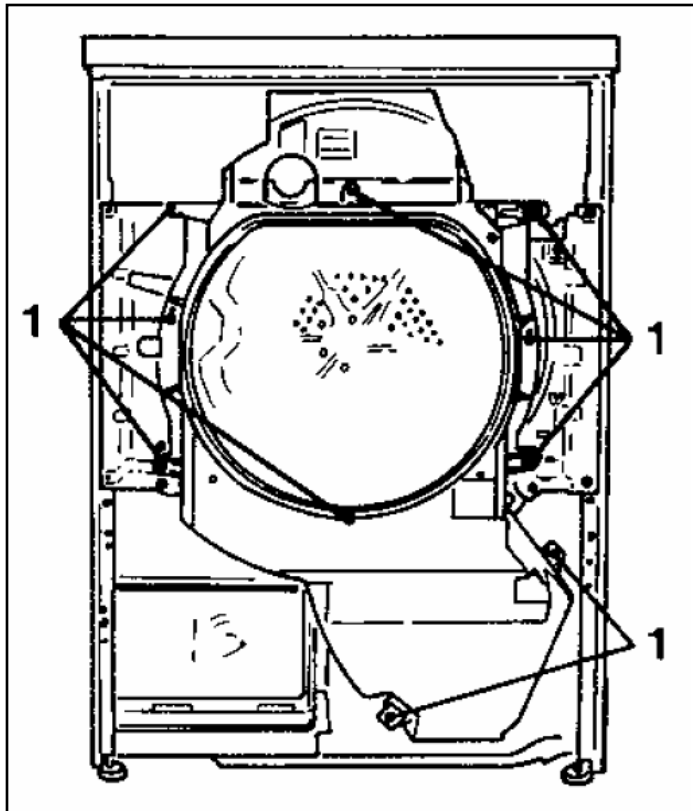

Figure 5-11: Fan Unit with Drum Drive Motor Removal
3. Unscrew the fill ring and exhaust duct cover; refer to Figure 5-11 – Fan Unit with Drum Drive Motor Removal, Item 1, and remove them.